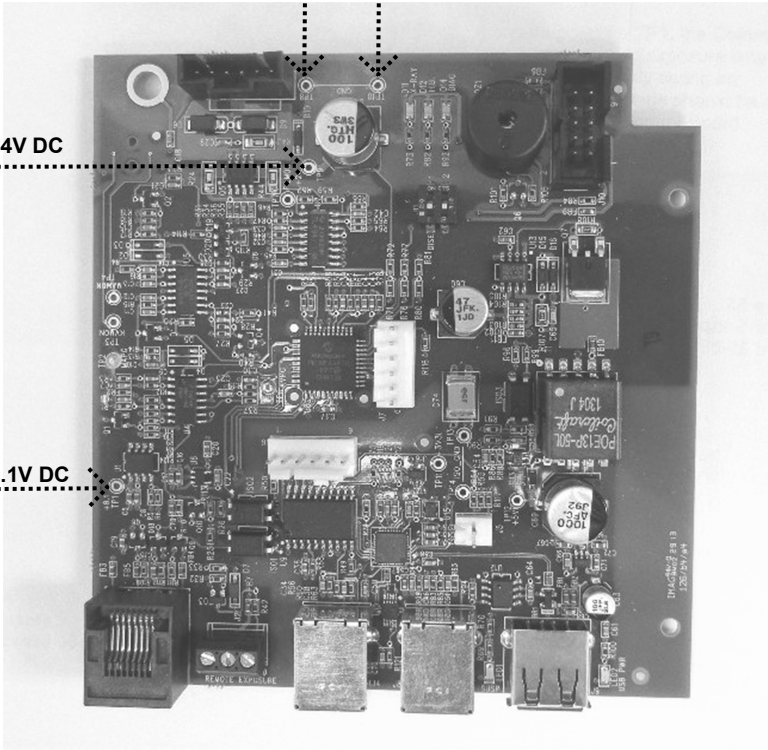

Figure 58
6. On the Power Supply Board, use TP2, as a common test point, and check TP1 +24 volts DC and TP3 8.1 volts DC, as shown in *Figure 58*. Then use TP5 as the common return to check TP4 for the presence of +12 volts DC. Should any of these voltages not be present, replace the Power Supply Board. If each voltage is present, inspect the condition of the ribbon cable between the Power Supply Board and the Logic Board. If the cable is undamaged and seated properly, replace the Logic Board.